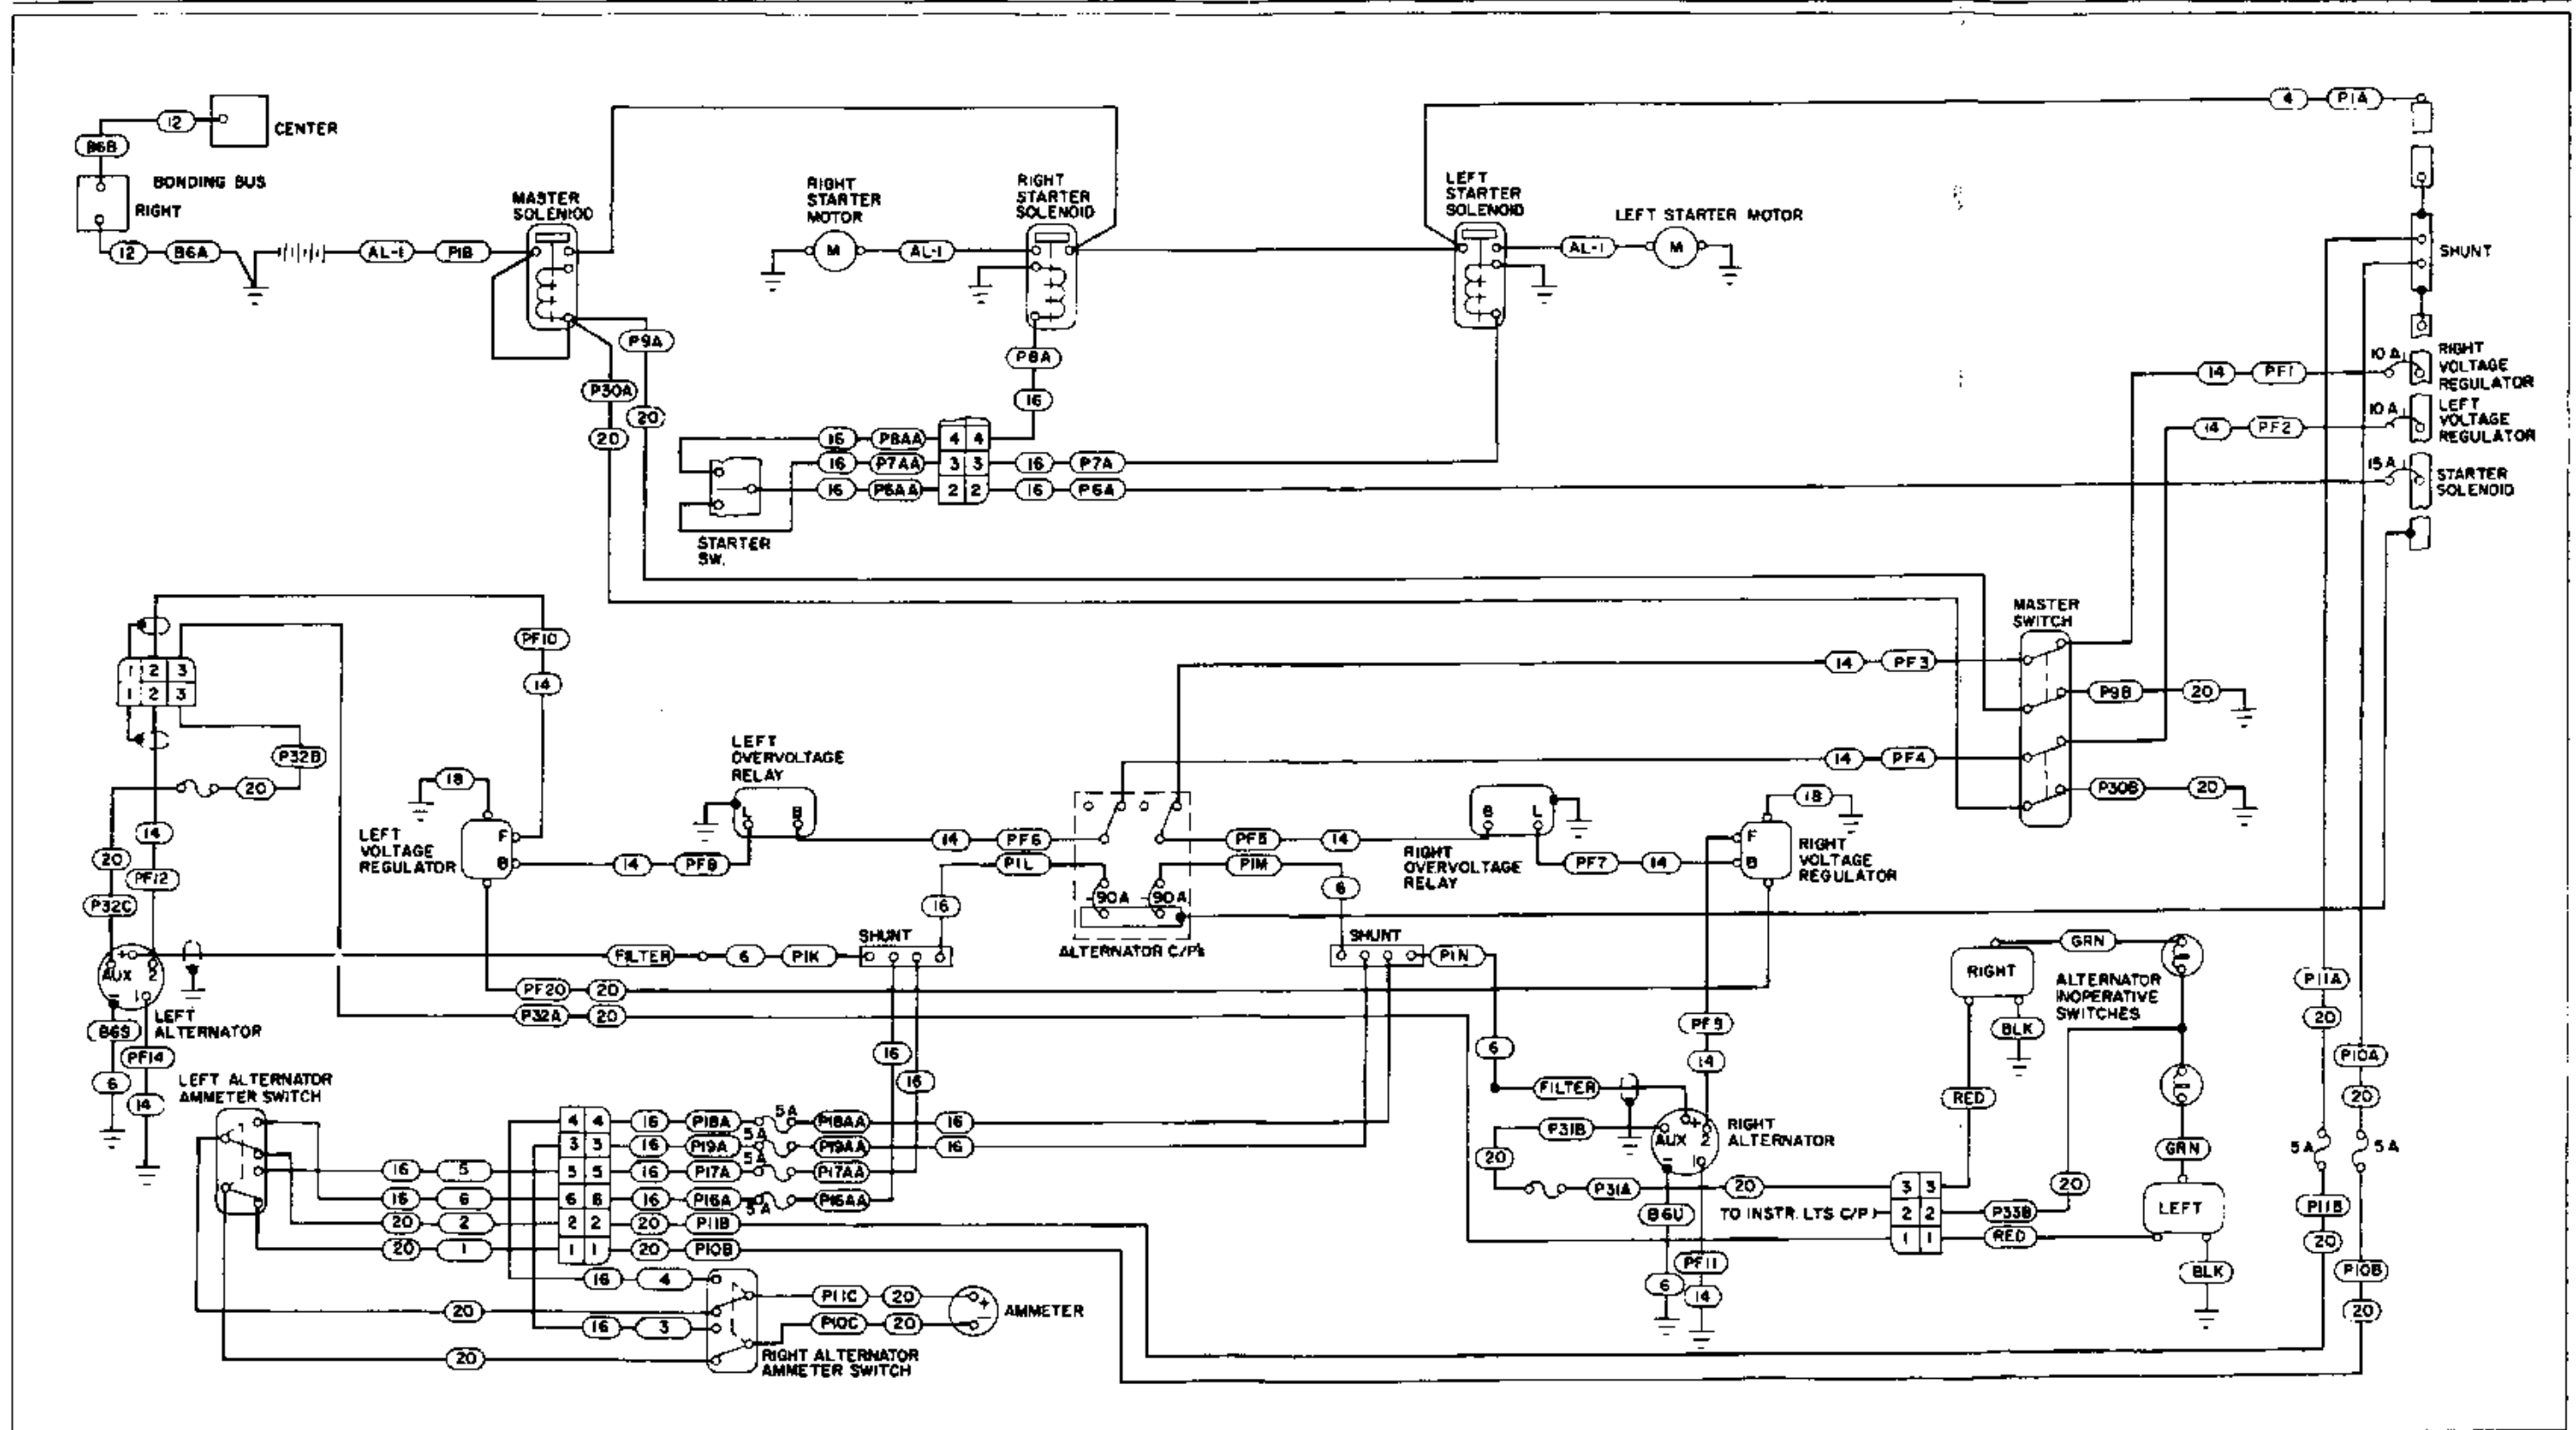

Figure 11-34a. Alternator Paralleling System
**11-64d. CHECKING ALTERNATOR PARALLELING SYSTEM.** The alternator paralleling system incorporates an ammeter which provides for an independent check of each alternator, as well as the charge/discharge current of the battery. In the event either ALTERNATOR INOPERATIVE light begins to glow or the ammeter check for either alternator fails to indicate an output, check the appropriate alternator circuit breaker switch, also the voltage regulator circuit breaker. If the circuit breakers are in their normal operating position a further check of the alternator system should be accomplished. (Refer to Figure 11-34a.)